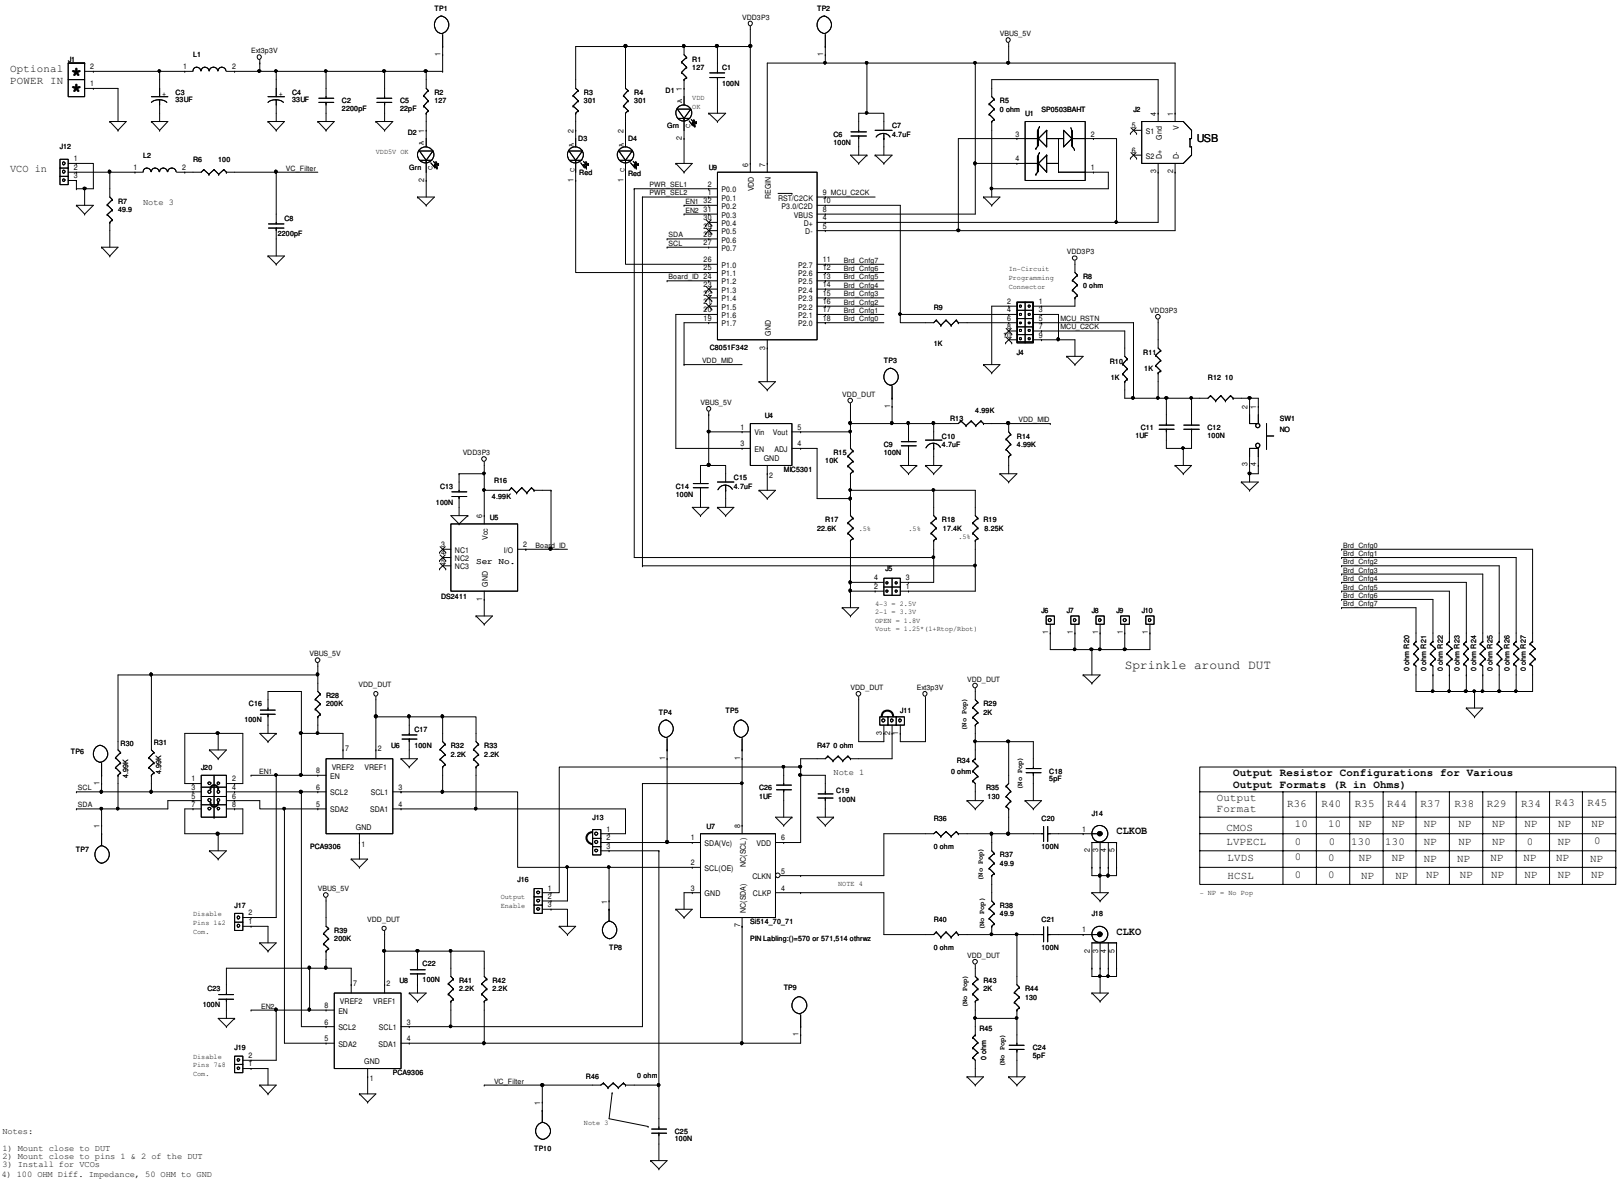

Figure 4. Si5xx-PROG-EVB (Universal I2C XO/VCXO)
- Updated Figure 4 on page 11 (schematic).